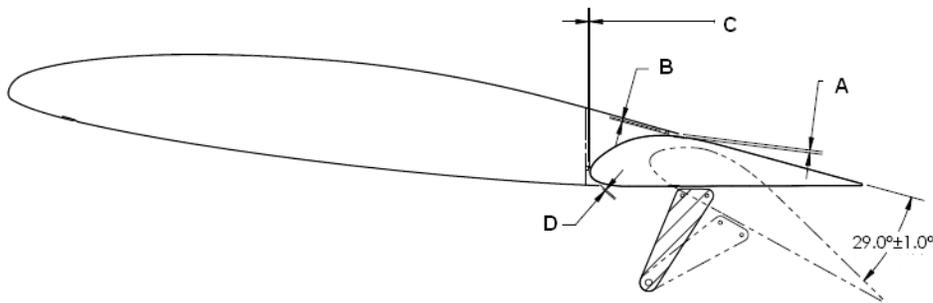

Figure 27-68 Wing-Flap Closeout
6. Check minimum tolerances as defined in Table 27-7 and Figure 27-68.